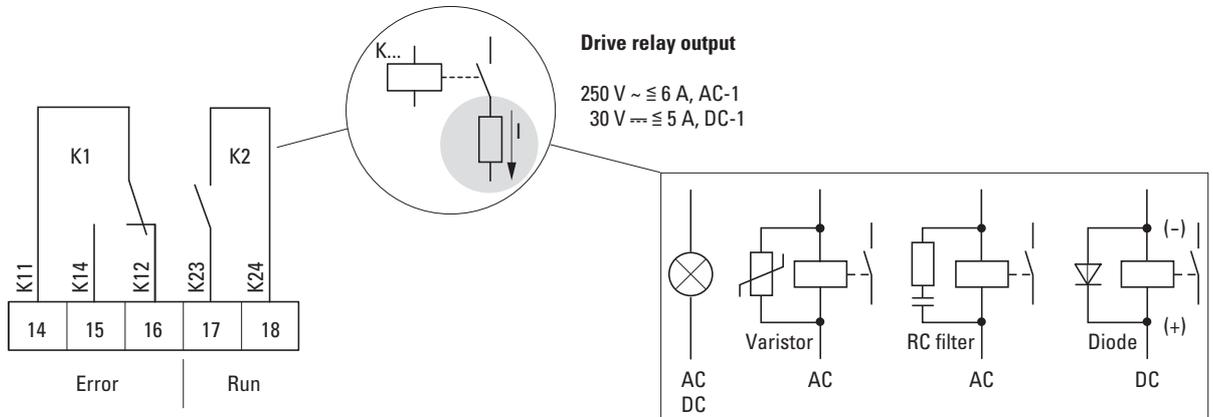

Figure 78: Connection examples with suppressor circuit
Depending on how parameters P1-12 and P1-13 are set, control signal terminals 6 (AI1) and 10 (AI2) can be connected to analog signals (→ Figure 78):
Analog signals are available at control signal terminals 8 and 11 (→ Figure 78). These outputs can handle a maximum load of 20 mA. The output signals can be selected using parameters P2-11 (AO1) and P2-13 (AO2). Parameters P2-12 (AO1) and P2-14 (AO2) are used to configure the formats for the analog inputs:
Control signal terminals 8 and 11 (→ Figure 78) are configured as analog outputs (AO) by default. Parameters P2-11 and P2-13 can be used to configure them as digital outputs (DO) instead.